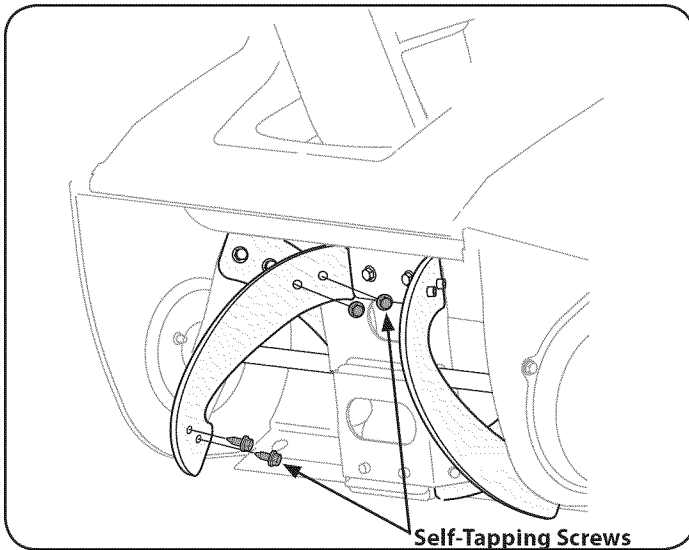

Figure 18
1. Remove the existing rubber paddles by unscrewing the self-tapping screws which secure them to the auger. See Figure 18.